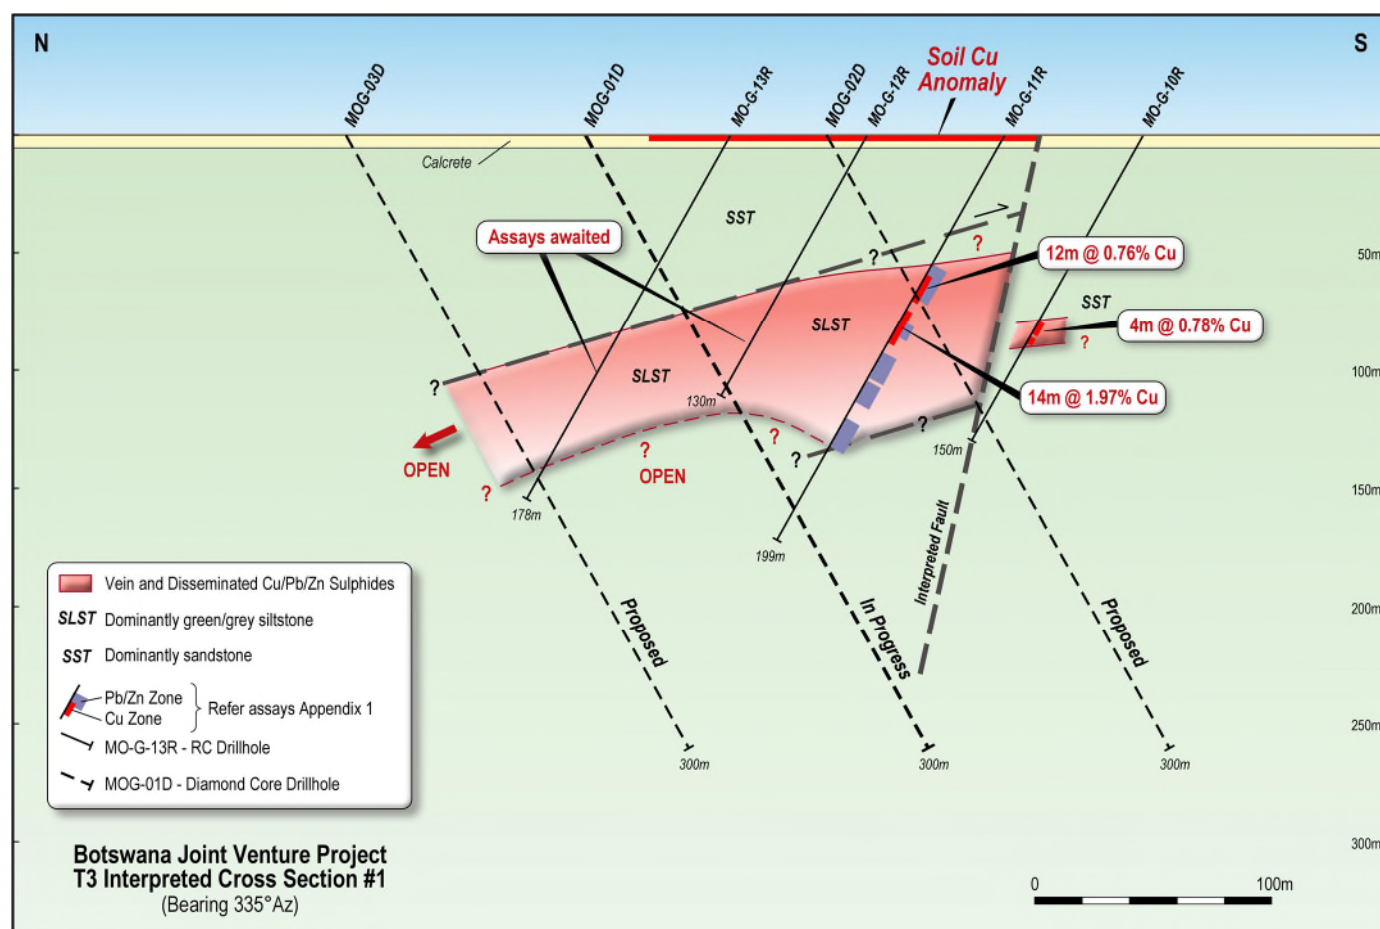

Figure 2: T3 Preliminary Interpreted Cross Section #1 showing significant intersections in drill holes MO-G-10R and MO-G-11R
- Two RC drill holes have intersected wide zones of visible disseminated Cu/Pb/Fe sulphides 100m west and east of current drill section (Figure 2). Results are being interpreted
The Board of MOD Resources Ltd (ASX: MOD) is pleased to announce very encouraging assay results from the second RC drill hole (MO-G-11R) at the T3 discovery, owned by MOD (70%) and Metal Tiger Plc (LON:MTR) (30%). As announced on 17 March 2016 and 23 March 2016, significant visible Cu mineralization was also intersected in MO-G-12R and MO-G-13R which are on the same drill section as MO-G-11R (Figure 2) and assays are expected from these holes soon.
A preliminary interpreted cross section (Figure 2) illustrates the difference in assay results and geology between holes MO-G-10R and MO-G-11R. Hole MO-G-10R includes an isolated interval of moderate grade Cu, has no significant Pb or Zn and is hosted by sandstone. Hole MO-G-11R includes two intervals of significant Cu and five zones of highly anomalous Pb/Zn, hosted mainly by green/grey siltstone.
Interpretation of the geology, structure and geometry of the near surface Cu/Pb/Zn mineralisation at T3 is still at a very early stage. The results from diamond drilling will provide higher quality geological and assay data and the capacity to test deeper targets within the 25km long interpreted T3 Dome. Diamond drill hole MOG-01D is in progress to test an inferred DHEM conductor modelled at >200m depth and MOG-02D is expected to provide information on the sulphide mineralisation in MO-G-11R and test the south side of an interpreted fault (Figure 2).
Examples of forward looking statements included in this announcement are: 'A WNW trending fault is interpreted from magnetics (Figure 2) which may explain the apparent offset of mineralised siltstone north of the interpreted fault from the relatively barren sandstones MO-G-10R south of the fault.' and 'The results from diamond drilling will provide higher quality geological and assay data and the capacity to test deeper targets within the 25km long interpreted T3 Dome. Diamond drill hole MOG-01D is in progress to test an inferred DHEM conductor modelled at >200m depth and MOG-02D is expected to provide information on the sulphide mineralisation in MO-G-11R and test the south side of an interpreted fault (Figure 2).'